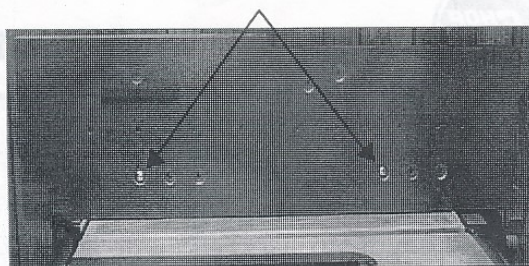

Figure 2
2. For Mark V 510 owners, use 2-3/4" long screws (2) and refer to Figure 2.